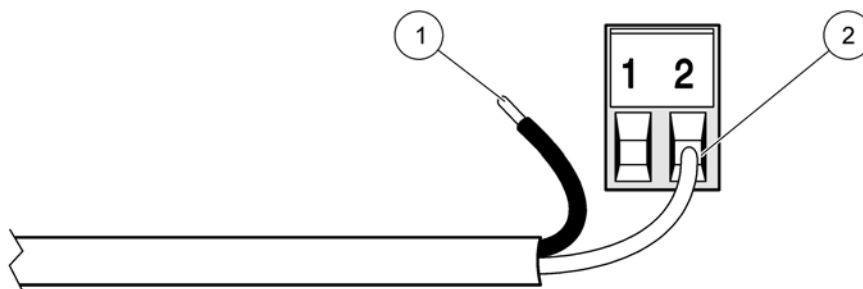
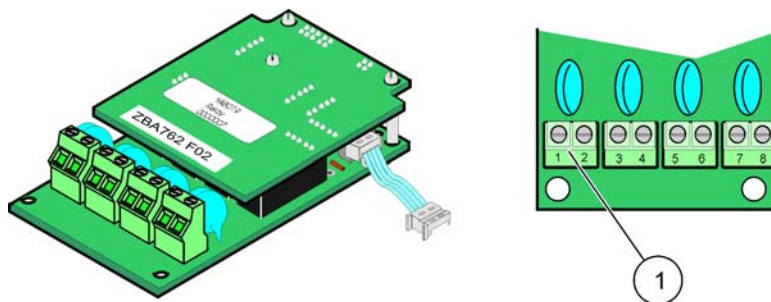

Figure 19 Proper wire preparation and insertion
Figure 20 Relay card (YAB022, normally closed)
5. Feed the cable through the base of the module and properly prepare and insert each wire (Figure 19) into the terminal according to Figure 20/Table 3 and Figure 21/Table 4. Tug gently after each insertion to make sure that the connection is secure.